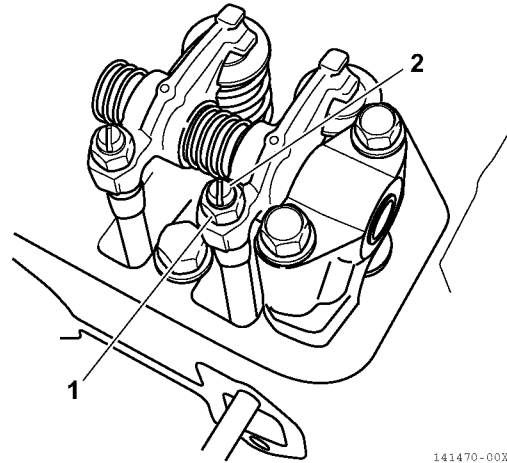

Figure 6-44
5. Loosen the valve adjusting screw lock nut (1, **Figure 6-44**) and valve adjusting screw (2, **Figure 6-44**) on the rocker arm and check the valve for inclination of the valve cap, entrance of dirt, or wear.
6. Insert a feeler gauge of the correct thickness (1, **Figure 6-45**) (see *Adjustment Specifications* on page 6-4) between the rocker arm and valve cap. Turn the valve adjustment screw to adjust the valve clearance so there is a slight "drag" on the feeler gauge when sliding it between the rocker arm and the valve cap. Hold the adjusting screw while tightening the valve adjusting screw lock nut (1, **Figure 6-44**). Recheck the clearance.